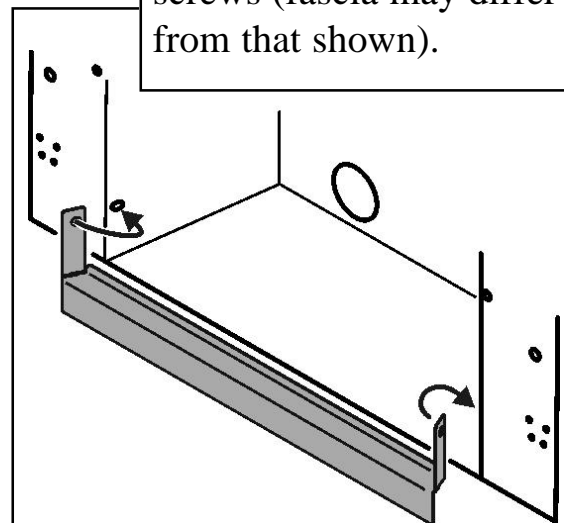

Figure 25. Baffle fitting (Shown without burner for clarity)
3. A 'Hole in the wall' baffle is supplied with 'Chic' models. In elevated installations this baffle will reduce the visibility of the sealing tape. If required, locate the baffle as in figure 25.